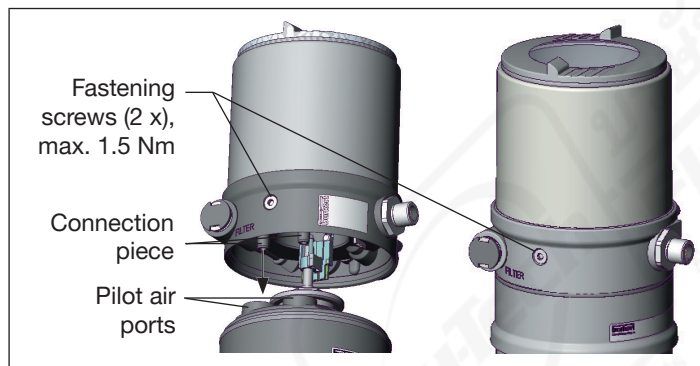

Fig. 22: Control unit installation
2. the connection pieces of the control unit enter into the pilot air connections of the actuator (see „Fig. 22“).